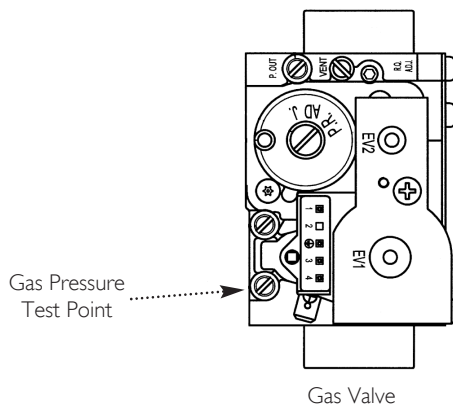

Fig. 55a
6. With the boiler operating in the maximum rate condition check that the operational (working) gas pressure at the inlet gas pressure test point (Fig. 55a) is in accordance with B.S. 6798 & B.S. 6891.